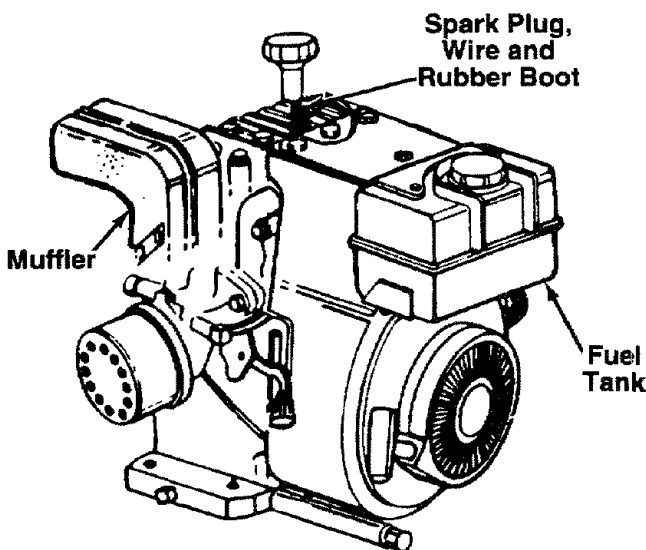

FIGURE 11.
- Attach spark plug wire and rubber boot to spark plug if necessary. See figure 11.